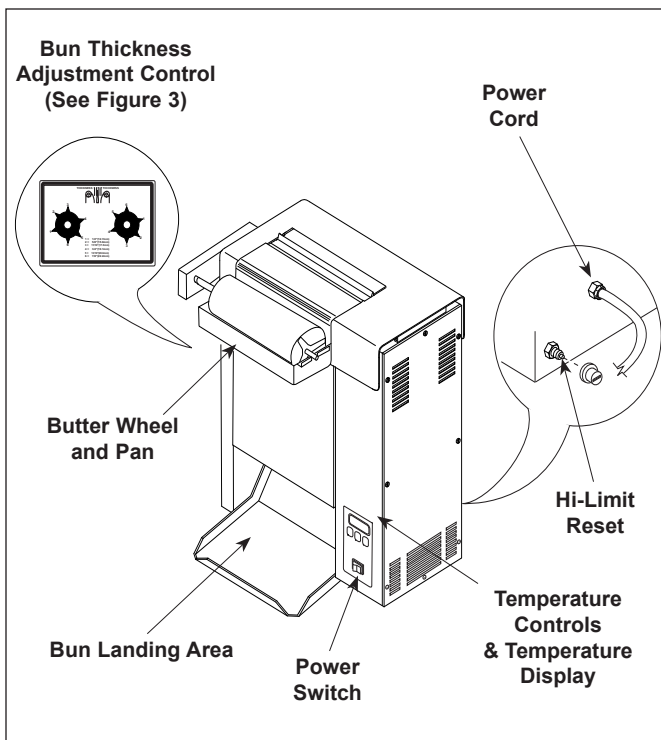

Figure 2. VCT-2000 Toaster
NOTE: The Temperature Display (Figure 2) will flash “LO” until the toaster reaches its preset operating temperature. When the toaster approaches the preset temperature of 600°F (315°C), “USE” appears in the Temperature Display and the unit is ready to toast buns. If “USE” does not appear in the window after warmup period of approximately 30 minutes, contact your Authorized Service Agency.
4. Toasted buns will drop into the Bun Landing Area (Figure 2) in approximately 15 seconds.
A Hi-Limit Control turns off electrical power to the heater and control circuits if the unit overheats. To reset the control, allow 10-15 minutes for the unit to cool, then locate the Reset Button at the rear of the unit. Remove the black protective cap, press the Reset Button, and reinstall the protective cap (Figure 2).